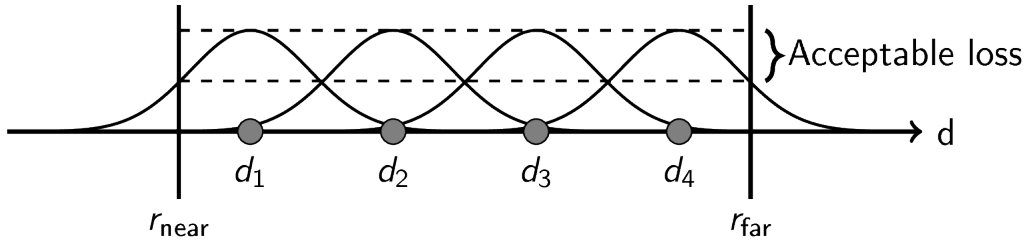

Figure 13: A sketch of setting up the measurement range for efficient coverage of a given area.
- The profile: If steps are too long, reflecting objects may fall between points, creating “blind spots” in the range. See Figure 13 for an example.
- From here, the **start point** and **number of points** can be set. Just make sure the points cover r_{near} to r_{far} . Due to the pulse length (profile), the start and end points doesn't necessarily have to pass r_{near} and r_{far} . Again, see Figure 13 for an example of this. However, keep in mind that distance measurements typically cannot be done in the very edge of the range, so you might have to extend it outside r_{near} and r_{far} anyways.